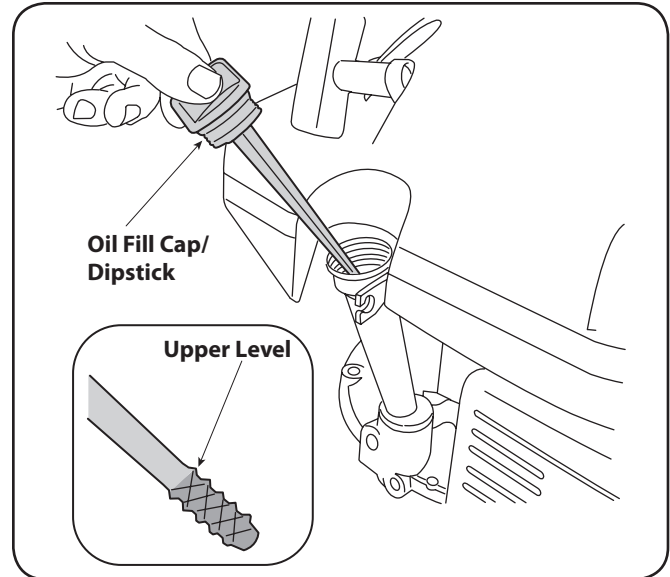

Figure 3-2
1. Remove the oil filler cap/dipstick and wipe the dipstick clean. See Fig. 3-2.
3. Remove the oil filler cap/dipstick. If the level is low, slowly add oil until oil level registers between high (H) and low (L), Fig. 3-2.
3. Remove dipstick. If the level is low, slowly add oil to the upper limit on the dipstick. See Fig. 3-2 inset.